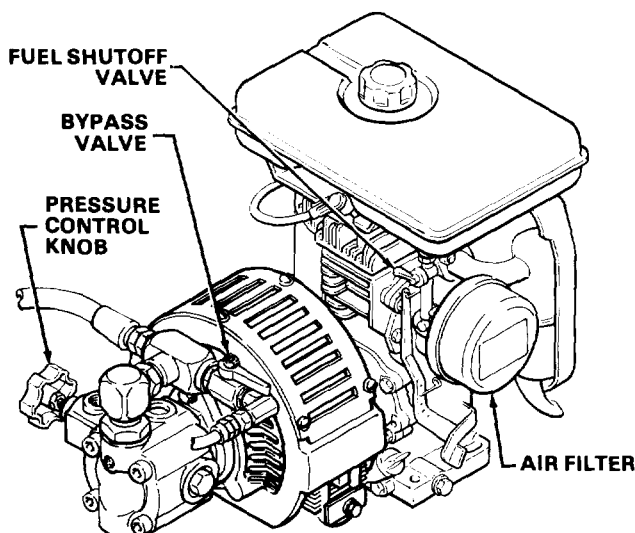

Fig 5
4. Turn the pressure control knob *counterclockwise* until all spring tension is relieved. You will be able to feel it. The sprayer is now set at the lowest pressure setting. Turning the knob further will cause it to fall off. Tighten the knob locknut to set. See Fig 5.
5. Open the bypass valve. The lever will be parallel to the body of the valve. See Fig 5.
6. Open the fuel shutoff valve by screwing it out as far as it will go. See Fig 5.
9. After the engine is warm, gradually open the choke lever and close the bypass valve. See Fig 5 and 6.
11. Disengage the gun safety latch and squeeze the gun trigger. At the same time, slowly turn the pressure control knob clockwise just enough to start the pump. See Fig 5.